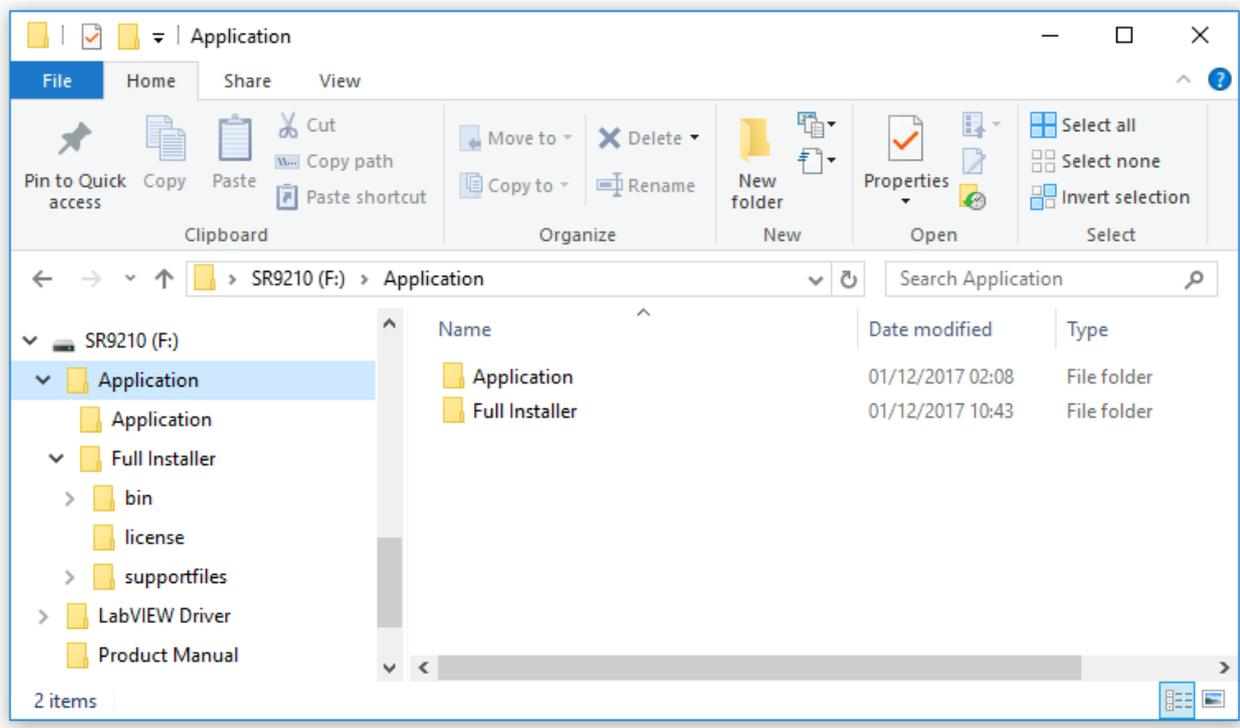

Figure 2, USB Memory Stick Contents
- 1) Plug the USB stick into a PC running Windows 7 or later, and use File Explorer to navigate to the folder (figure 2):